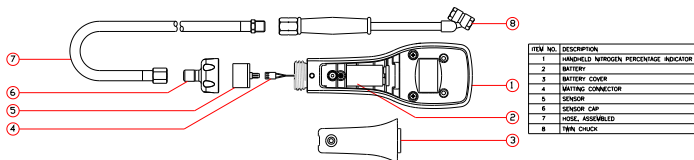

Fig 1
- 3.1.2 Remove the screw on the battery cover (refer to Fig 1).